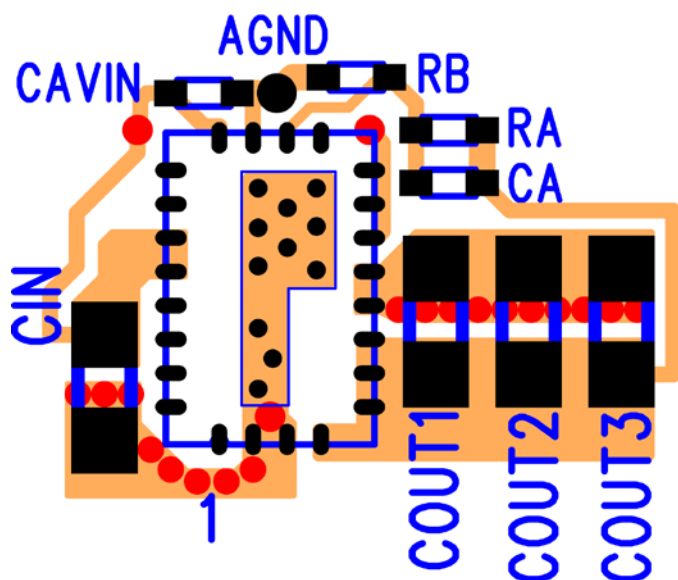

Figure 9. Optimized Layout Recommendations
**Recommendation 5:** AVIN is the power supply for the small-signal control circuits. It should be connected to the input voltage at a quiet point. In Figure 9 this connection is made at the input capacitor. Connect a  $1\mu\text{F}$  capacitor from the AVIN pin to AGND.
**Recommendation 6:** The layer 1 metal under the device must not be more than shown in Figure 9. See the section regarding exposed metal on bottom of package. As with any switch-mode DC/DC converter, try not to run sensitive signal or control lines underneath the converter package on other layers.